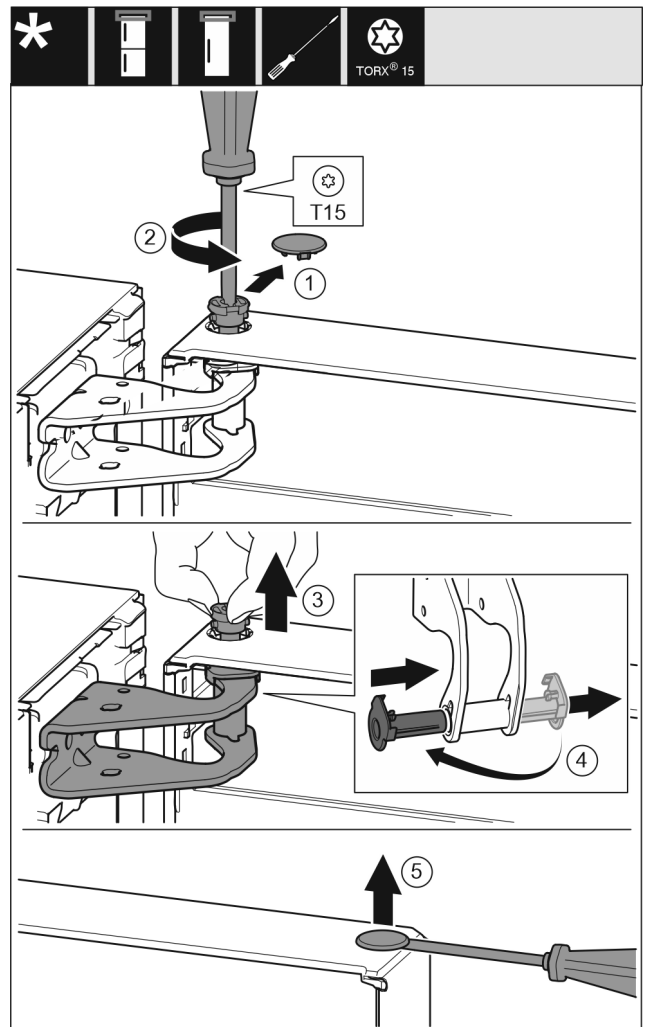

Fig. 10
- ▶ Carefully remove the protective cover. Fig. 10 (1)
- ▶ Loosen the bolts slightly with a T15 screwdriver. Fig. 10 (2)
- ▶ Hold the door and remove the bolts with your fingers. Fig. 10 (3)
- ▶ Pull the bearing bush out of the guide. Insert from the other side and latch into place. Fig. 10 (4)
- ▶ Carefully lift the plugs out of the door bearing bush with a slotted screwdriver and remove them. Fig. 10 (5)